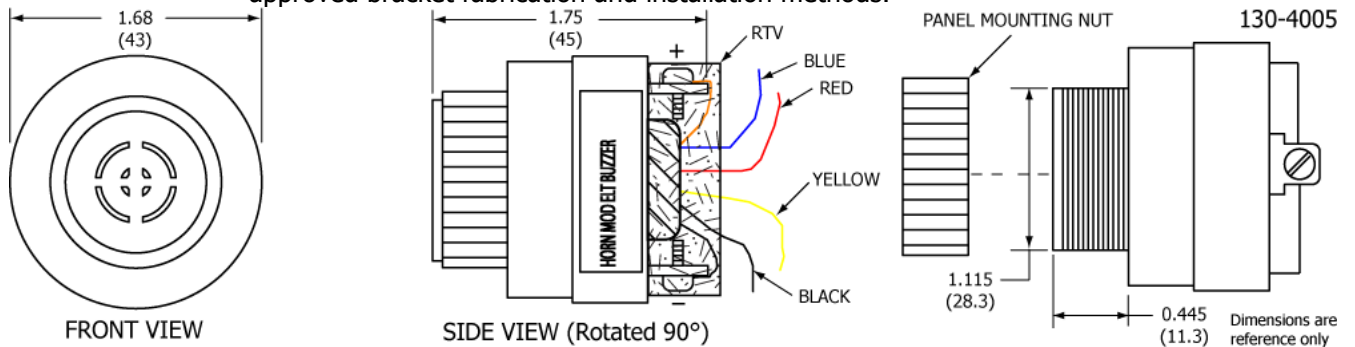

Figure 19 Buzzer Outline and Dimensions
- 1) Fabricate a bracket suitable for supporting the buzzer. See Figure 19 Buzzer Outline and Dimensions.